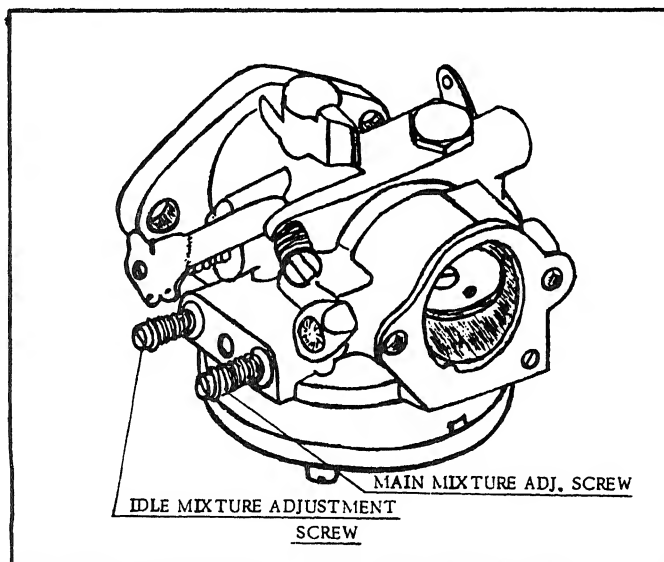

FIGURE 10 - CARBURETOR, SHOWING POINTS OF ADJUSTMENT.
Carburetor maintenance is restricted to adjustment of the Idle Mixture Adjustment Needle and the Main Mixture Adjustment Needle, (See Figure 10, this page) and maintaining the carburetor in a clean condition. Follow the general rules prescribed for cleanliness of parts in doing this.
1) The usual setting of the Idle Mixture Adjustment Needle Screw is approximately $\frac{3}{4}$ turn open from fully closed. (See Figure 10, this page).
2) The usual setting of the Main Mixture Adjustment Needle Screw (See Figure 10, this page) is $1 \frac{1}{4}$ turns open from fully closed. To check the setting, warm up the engine for several minutes. If the saw runs unevenly or lacks power, the adjustment is too rich; gradually turn screw clockwise until engine levels out and pulls best in cut. Usually the best setting is $1 \frac{1}{4}$ to $1 \frac{1}{2}$ turns open.